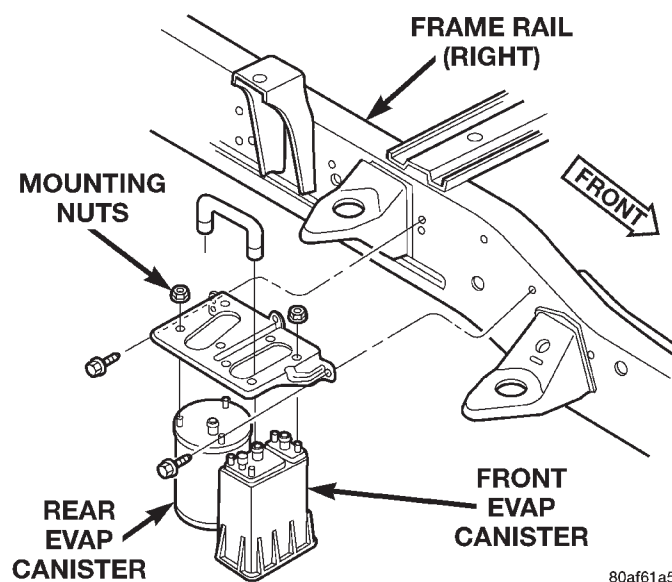

Fig. 19 EVAP Canister Location
Two EVAP canisters are used. Both canisters are mounted to a bracket located below rear of vehicle cab on outside of right frame rail (Fig. 19).
- (2) Remove mounting nuts at each canister (Fig. 19).
- (3) Remove each canister from mounting bracket.
- (1) Place each canister to mounting bracket (Fig. 19).
- (2) Install nuts and tighten to 9 N·m (80 in. lbs.) torque.
- (3) Install fuel tubes/lines to each canister.